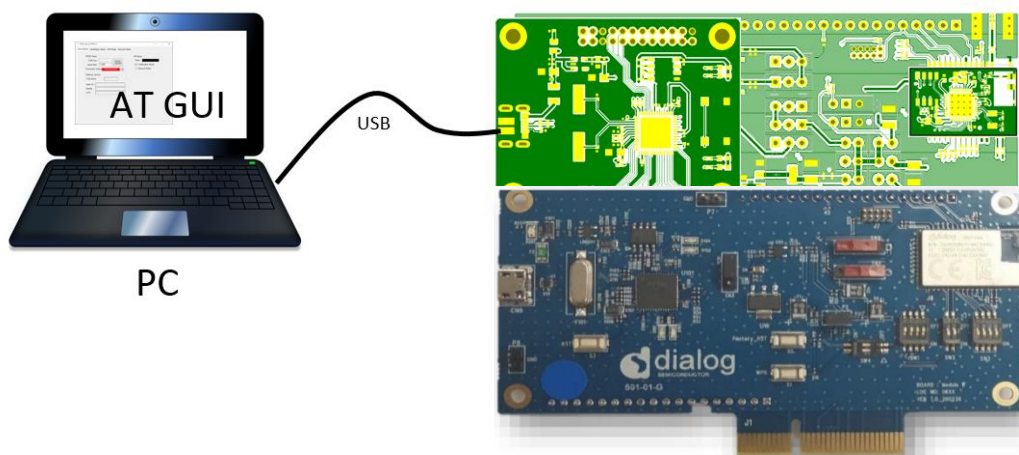

Figure 2: Development Kit Connections
1. Connect the DA16200 Development Kit to the host PC as shown in Figure 2.